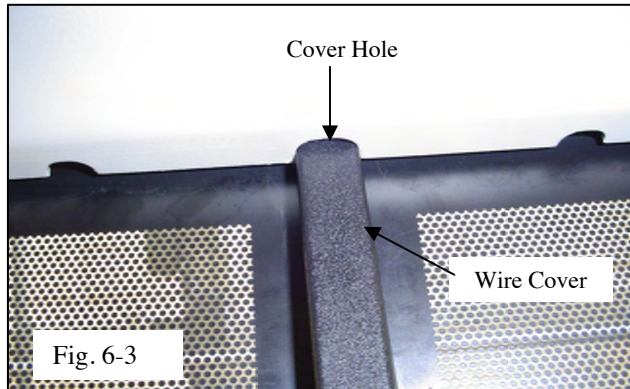

Fig. 6-3
- (2) Extend the top of the cover fully into headliner.
- (3) For vehicle's that have access holes cut into the molding, ensure the wire cover is placed through the hole and butted up against the cover. (Fig. 6-3)